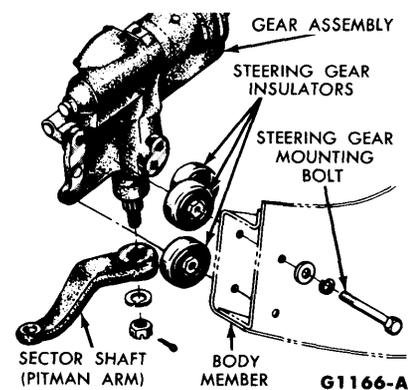

FIG. 27—Steering Gear Mountings
4. Remove the steering gear mounting bolts (Fig. 27), and pull the steering gear assembly out of the flex joint.
5. If a new gear is to be installed, transfer the insulator spacers from the old gear to the replacement gear (Fig. 27). Make sure the sector shaft and worm shaft are centered. To center the gear, turn the worm shaft until either stop within the gear is reached; then turn the worm shaft back approximately two turns.
6. Insert the worm shaft into the flex joint, position the steering gear to the underbody member, and install the mounting bolts (Fig. 27). Torque the mounting bolts to specifications.